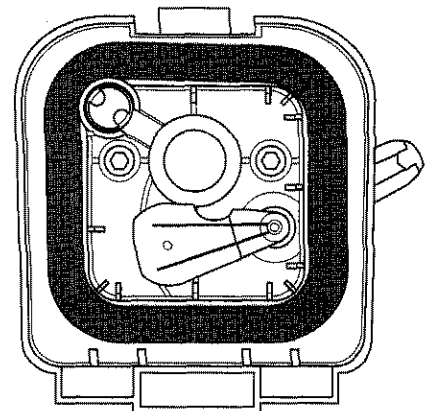

Fig. 29
7. Reinstall the filter (Fig. 29).